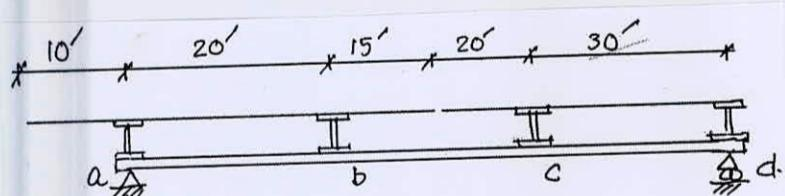

Fig. 12
9. A uniform live load of 2 kip/ft and single concentrated live load of 10 kip are placed on floor beams system as shown in Fig. 12. Draw influence lines for